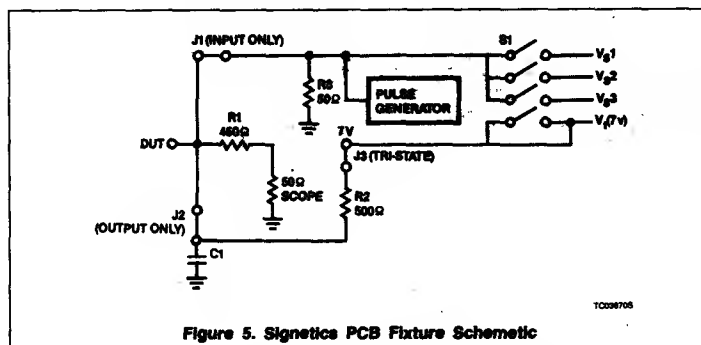

Figure 5. Signetics PCB Fixture Schematic
There are two types of signal lines on this fixture: input and output; both of which are 50 Ω transmission lines. The input line is on the top side of the board end is always terminated in 50 Ω . It is connected to the DUT via a .3" jumper, Jumper #1 for input. When this jumper is installed, the DUT pin is available only as an input. To allow this line to be used as an output, a .1" jumper, Jumper #1 for output, is used instead of the .3" jumper. This connects the DUT pin to the AC load when the DUT pin is an output. See Figure 5.
hard to detect errors into the waveform. The second reason being that most suppliers of these technologies provide data based upon the Low-impedance approach and most large users of these products do so as well. This also allows the fixture to be used for ECL testing since that product uses a totally 50Ω environment. Figure 5 illustrates how this test fixture implements the 50pF/500Ω load schematically.
As illustrated in Figure 5, the load is shared with the 50Ω input of the measurement system; a 50Ω sampling oscilloscope. The 450Ω resistor: R1, is soldered to the socket pin of the device and is in series with the 50Ω input of the scope. Figure 6 illustrates this on the board layout of one input/output pin. This allows virtually a probe tip on the device pin. The load capacitor: C1, is a 33pF ceramic chip capacitor. This is added to the measured value of 17pF of board capacitance, achieving the 50pF value specified for the load. The distance from the pin to the capacitor is .5 inches and is adequate for the testing of these product families.
For testing 3-State parameters, the 500Ω resistor: R2, is connected to its pull-up supply: V_1 via a .3" jumper: Jumper #2. The V_1 supply is bussed to each pin and may or may not be connected with that jumper. See Figures 5 and 6.
When the input is not used for a signal input, the line may be switched to one of three voltage sources: V_s 1 through V_s 3, by the use of a DIP switch on each pin. It may also be left open and then the 50 Ω pull-down resistor: R1, pulls the line to ground and can be used as a hard low level. See Figure 5. These voltage levels are brought in from external supplies through banana connectors like V_{CC} . This scheme eliminates excessive cabling to each input to provide the static input levels and thereby reduces parasitic inductances and cross-talk. Each of the 3 busses and the V_i bus all have places for by-pass capacitors in the event of noise on the static levels. Figure 8 illustrates the DIP switch and SMB connectors and how they control the input stimulus and output measurement.
dedicated fixture. However, on a dedicated fixture, the pins are individually constructed to be either an input or an output, and in so doing, the fixture is usable for 1-to-4 devices. The Signetics fixture, once dedicated to a particular V_{CC} and GND configuration, is built up to have both input and output components on all signal pins. The selection of which pin is an output or an input is made by inserting the appropriate jumper, See Figures 5 and 6. The same applies in doing tri-state testing. The tradeoff here is that it would probably take less time to setup the dedicated fixture than the Signetics fixture. To help compensate for that tradeoff, we have the three V_s supplies that may be switched into any pin to provide input static levels and eliminate the need to bus input High or Low levels by external cabling. For the user that means the only connections being made to the fixture are:
- the V_i supply (banana jack): this is the tri-state pull-up voltage and is permanently connected to the bus to each pin. It is selectable by Jumper #2, see Figures 5 and 6. For FAST and ALS products this is 7V. For ACL products this is $V_{CC} \times 2$ and it is not used for ECL applications.